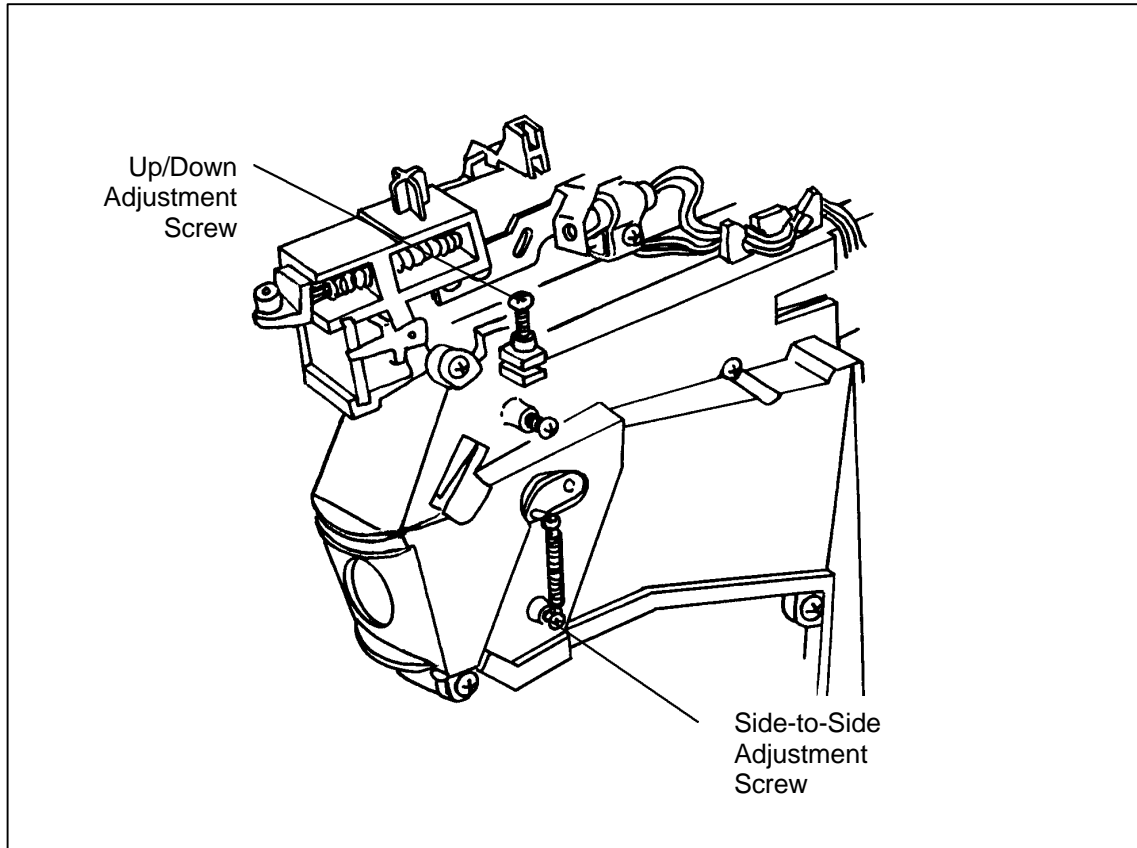

Figure 3-5 Grid Adjustments
- Turn the applicable adjustment screw (Figure 3-5) until the grid is properly centered.